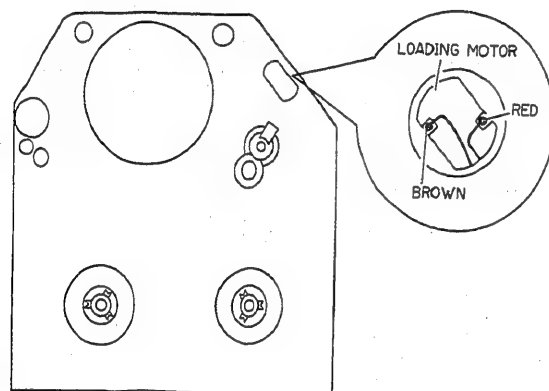

Fig. 1
1. When the loading motor is normal (Fig. 1)